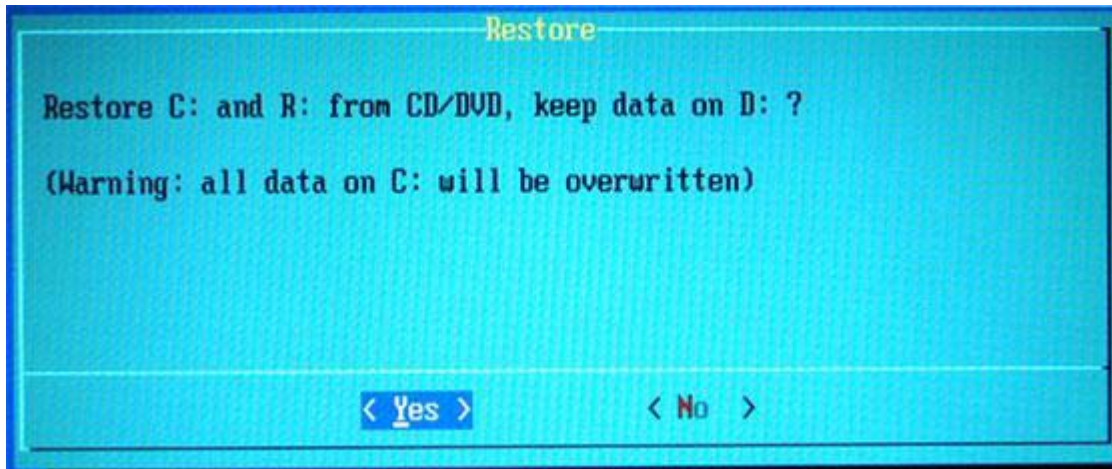

Figure 5-40 Confirm dialog with YES
- 2.) **Only if you are sure you have saved the “Full System Configuration”**, select YES in the following dialog box (see: Figure 5-40 below) and confirm with ENTER.